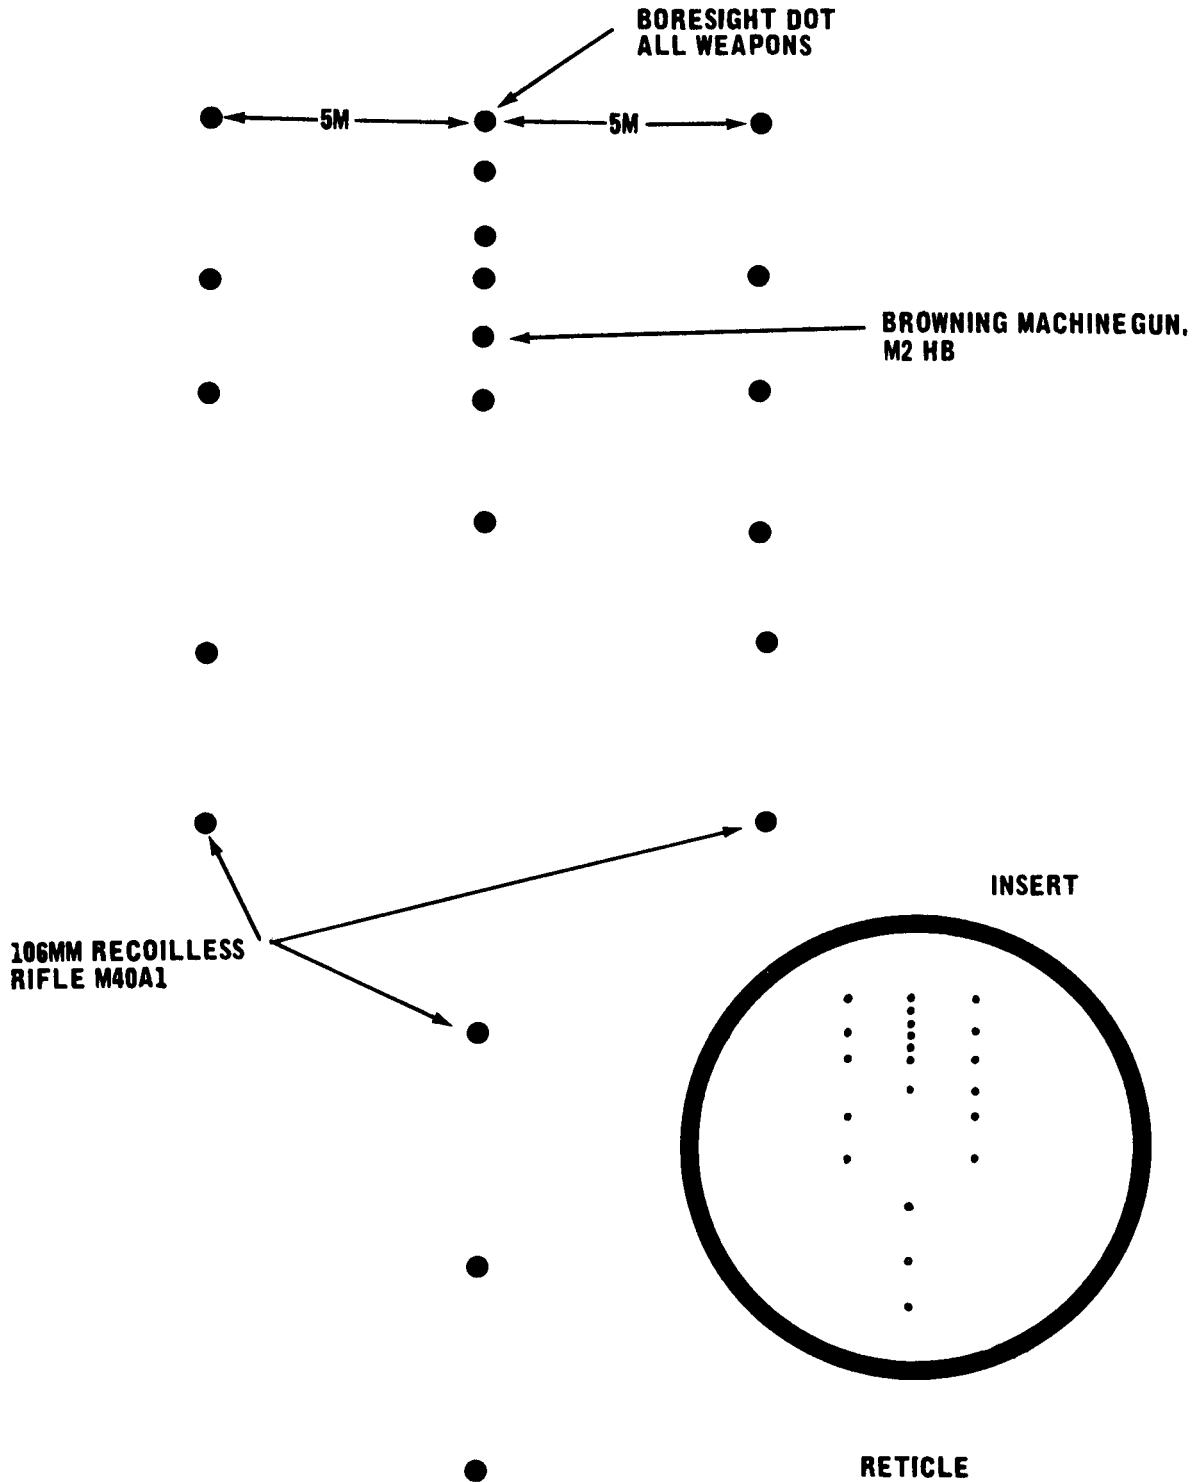

Figure 5. Reticle pattern.
**14. Reticle Pattern (Fig 5).** The reticle pattern is a multiple reticle designed for use with the Browning machinegun caliber .50 HB M2, and the 106-mm recoilless rifle. The top center dot is the boresight dot for both weapons. The seven dots
down the center are in 200-meter increments from 0 to 1200 meters, and are used with the caliber .50 machinegun. The six dots on each side and the three dots at the bottom are also divided into 200-meter increments from 0 to 1600 meters and are used with the 106-mm recoilless rifle. The Sight provides 5 mils lead right or left of center as shown in figure 5.